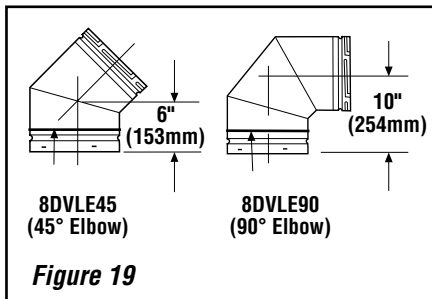

Figure 19
F. Change vent direction to horizontal/inclined run—At transition from or to a horizontal/inclined run, install the 8DVL45 and 8DVL90 elbows in the same manner as the straight vent sections. Fully engage the inner and outer unitized pipes at the bottom of the elbow. Rotate the elbow in the desired direction. **NOTE: Three (3) holes are provided at the bottom of the elbows.** Secure the elbow in place with a minimum of two (2) self tapping screws. The top of the elbow will connect to straight lengths of 8" DV Lock pipe by twist-locking the pieces together. See **Figure 17 on Page 16** and **Figure 19**.